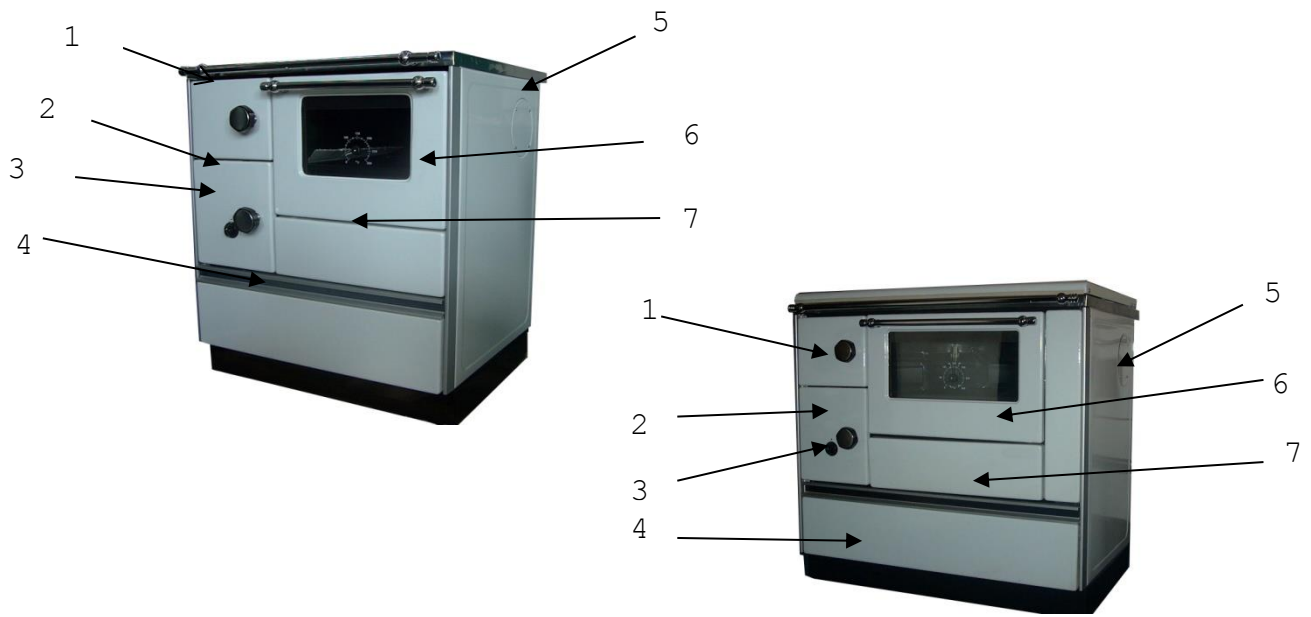
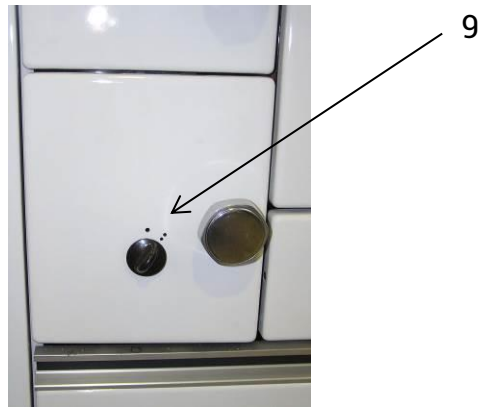

Figure 1
Fig. 3
The primary combustion air and thus the heating capacity of the stove is determined by the primary air for combustion. This air is controlled by the primary air control on the ashtray door (Fig. 1, item 3). The button on the ashtray door (Fig. 3, item 9) shows the direction of the opening and closing the slide opening. For firing, the air control should be opened to a maximum (set the button to the position 3).
### 3.4. OVEN DOOR (Figure 1, Item 6)
### 3.5. FUEL DRAWER (Figure 1, Item 4)
- \* Open the primary air control to the largest air release (Fig. 3, item 9)